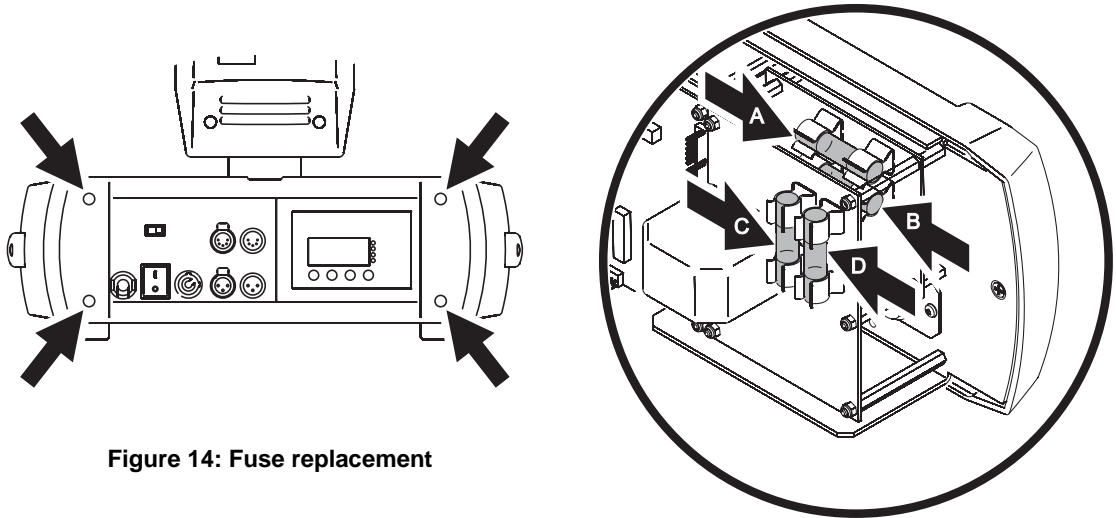

Figure 14: Fuse replacement
3. See Figure 14. Remove the four screws (arrowed) from the outer edges of the connections panel cover and pull the cover away from the fixture base for access to the PCBs.
4. See Figure 14. Fuses marked A and B protect the external dimmer lamp power circuit. Fuses C and D protect the main power circuit.